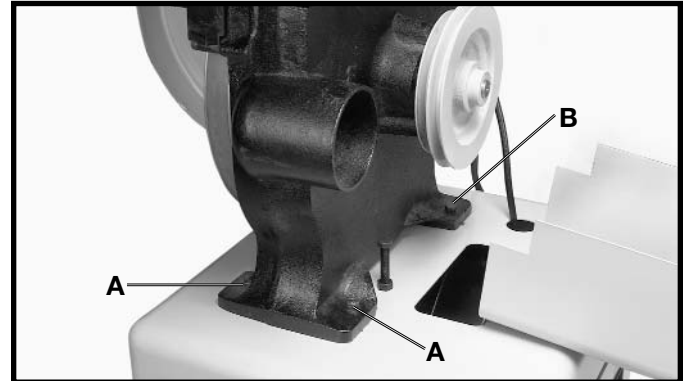

Fig. 17
2. Place the band saw on top of the stand as shown in Fig. 17. **NOTE: MAKE SURE THE PULLEY IS ON THE SIDE OF THE STAND WITH THE PULLEY GUARD.**
4. Place a M8 lockwasher and a M8 flat washer onto a M8x1.25x80mm hex head screw. Insert the screw through the hole (A) in the saw and the stand.
6. Repeat this process for the remaining hole (A) in the saw and the stand.
8. Repeat **STEPS 4 AND 5**, for the two remaining holes (B) Fig. 17, (one of which is shown).